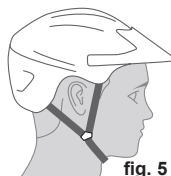

fig. 5
- **Helmet use (fig. 5):** Always wear a properly fitted helmet that is certified as meeting safety regulations when riding your e-bike. Some manufacturers may offer helmets that are specifically designed for use with e-bikes.